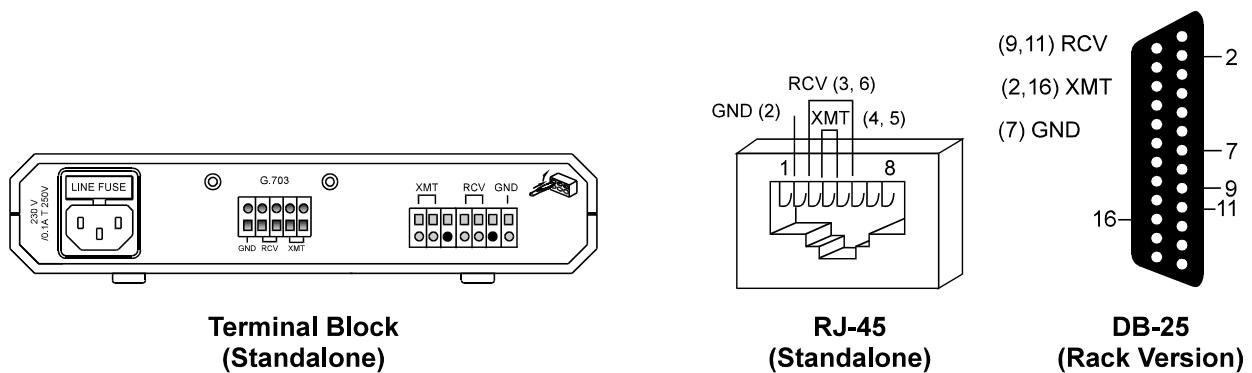

Figure B-1. IR-G.703 Connector Options
- **The Rack version** is mounted on the rack version modem card and uses the modem edge connector for communication. The edge connector is wired, on the motherboard of the card cage, to the DB-25 connector on the back plane of the ASM-MN-214 card cage. Figure B-1 illustrates the pinout of the different connectors.
In Figure B-1, RCV refers to the input signals to the IR module; XMT refers to the output signals from the module.